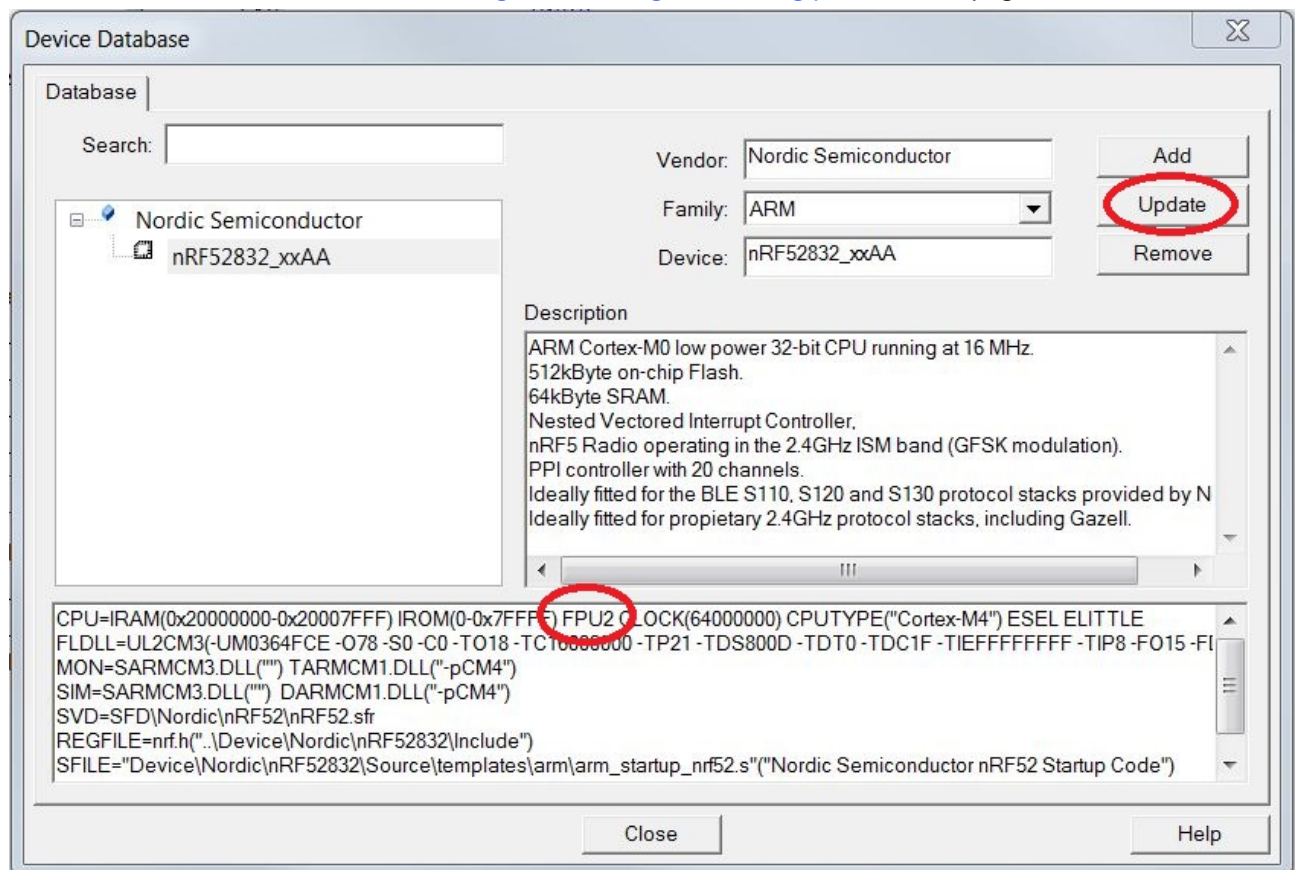

Figure 4: Setting the floating point unit
- c. Select **File > Device Database > Nordic nRF52 Series Devices** to set the floating point unit in the nRF52 Device Database, as shown in Figure 4: Setting the floating point unit on page 13.